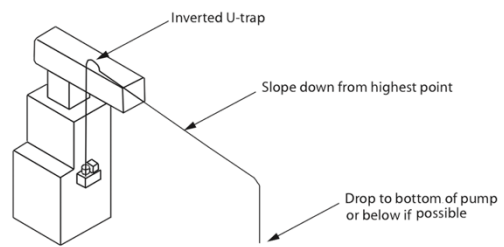

Figure 6
2. The discharge line (Figure 6) should be flexible tubing secured with a hose clamp (not provided) or pipe (3/8 inch I.D. maximum to prevent excessive flow back to unit). From the pump, extend the discharge line straight up as high as necessary (but not above the head/GPH of the pump). From this high point, slope the discharge line down slightly to a point above the drain, then turn down and extend to a point below or approximately level with the bottom of the pump. This will give a siphoning effect, which will improve the efficiency of the pump and will, in most cases, eliminate the need for a check valve. If it is not possible to slope the discharge line down, make an inverted U-trap directly above the pump at the highest point.